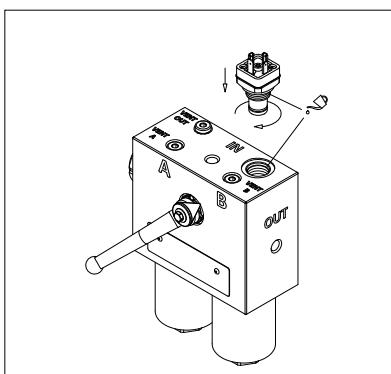

fig. 17
- (Fig. 17) Lubricate with the operating fluid the thread and the O-ring of the indicator body, then screw the indicator body in referring to the tightening torque table in paragraph 3